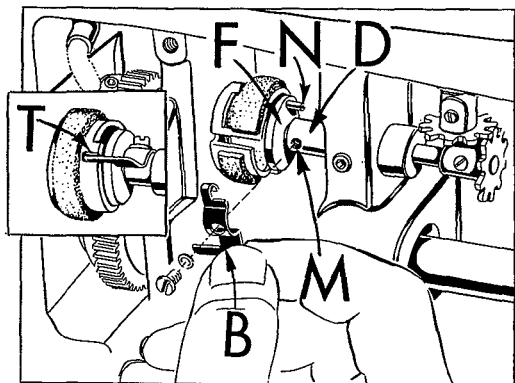

Fig. 26
10. Turn the hook oil control shaft (D, Fig. 26) until screw hole (M) is accessible. Manually rotate pump disc (F) so its stop pin (N) is  $90^{\circ}$  above screw hole.
11. Rotate metering cup so the short slot (T) is  $180^{\circ}$  from stop pin (N). Now, install hook oil control finger (B) by first hanging the hooked portion of finger over the stop pin and lowering to insert the projection at bottom left into the short slot of the metering cup. Tighten the finger in place by means of screw and washer, making sure the hook oil control finger does not bind or distort metering cup.